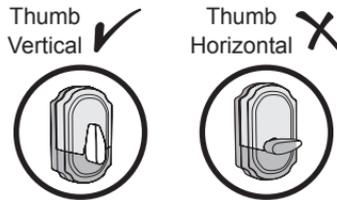

Fig. 8
Step 5. Adjust the thumb of inside section to VERTICAL position. (Fig. 8)